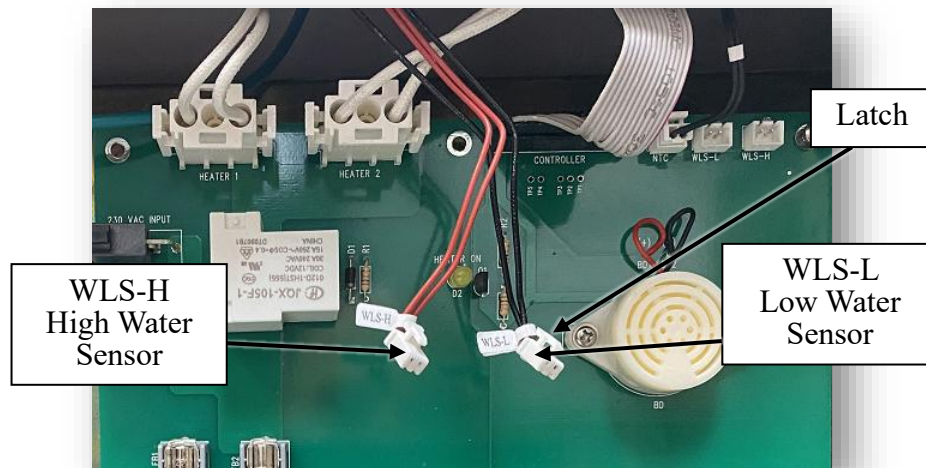

Figure 37 – High Water and Low Water Level Sensors
- Reseat (unplug and plug back in) the **WLS-L** and the **WLS-H** Connectors on the PCB. These connectors have a latch that must be depressed to unlock the connector from the slot. Press the latch with a thumbnail and pull the connector out of the slot. Press the connector back into the slot firmly and ensure it snaps in securely. (See Figure 37).